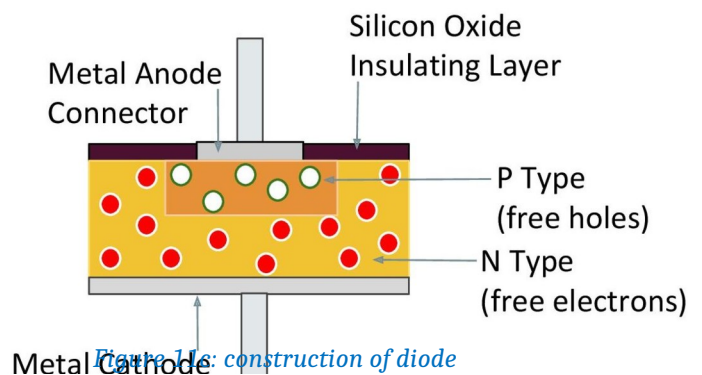

Figure 11c: construction of diode
1. The diode consists of a N-type substrate on which a P-Type layer is grown as shown in Figure 11c.